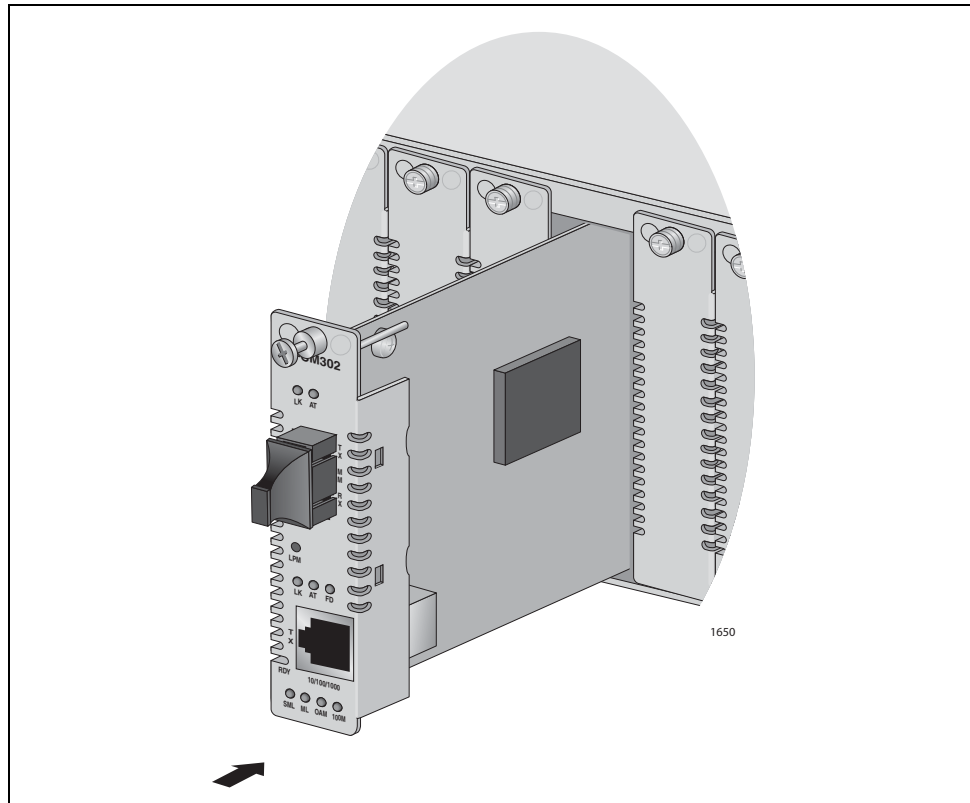

Figure 21. Inserting a Line Card
6. Slide the line card into the slot, as shown in Figure 21, until the front of the card is flush with the front of the chassis.